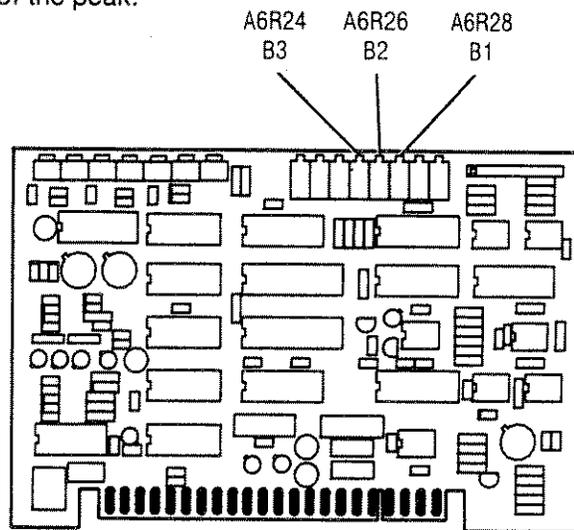
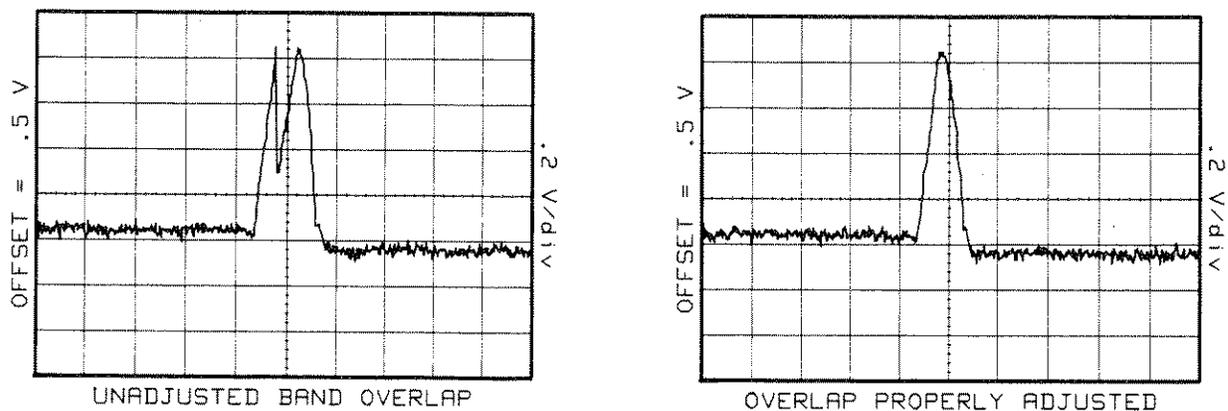

Figure 5-12. Band Overlap Adjustment Locations
Figure 5-13. Band Overlap Adjustment Waveform
- Adjust A6R28 (B1) to bring the right side peak over to the switch point so that the right half of this peak mates with the left half of the other as shown in figure 5-13. See figure 5-12 for the adjustment location. The peak should be undisturbed as it moves through the bandswitch point.